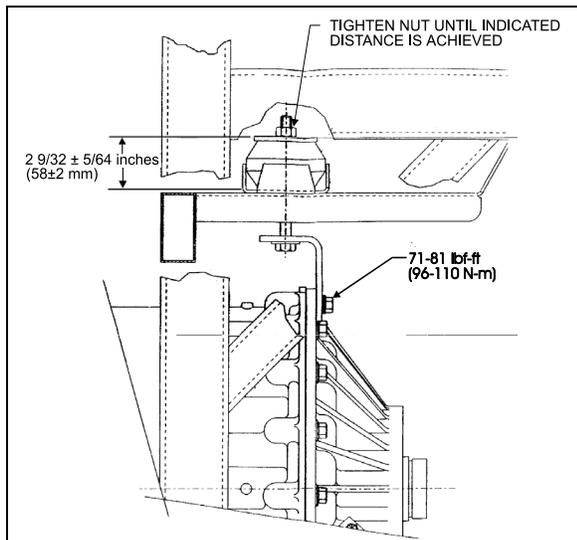

FIGURE 17: RUBBER DAMPER TOLERANCE 07014
- a) Install transmission bracket (Fig. 17), tighten to 71-81 lbf•ft (96-110 N•m).
c) Respect damper tolerance of 58 mm (Fig. 17)